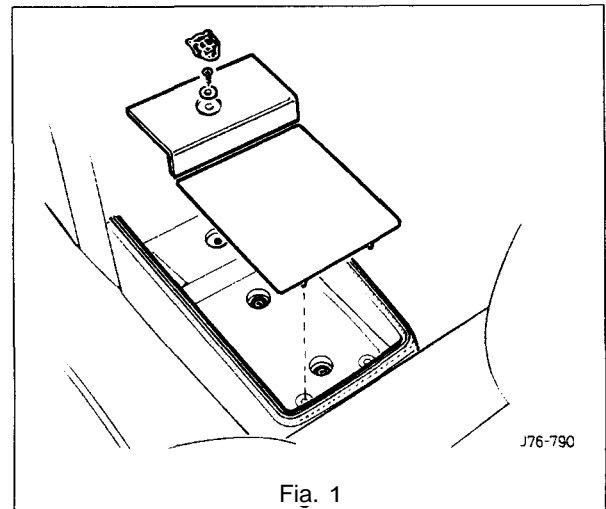

Fig. 1
- Carefully displace and remove the motif from the extension finisher (Fig. 1).
- Remove the console rear extension finisher, see sub-section 13.3.5 above and Fig. 1.
- Remove the mode switch (Fig. 1).